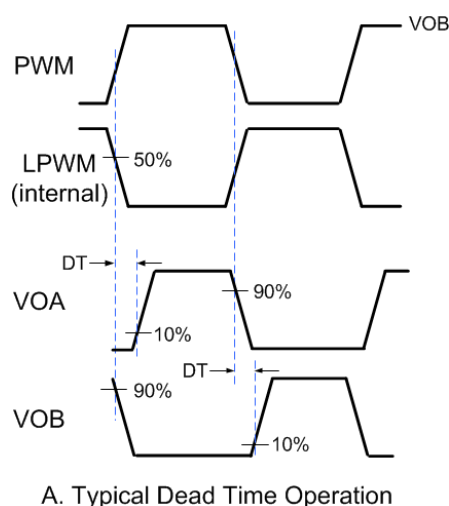
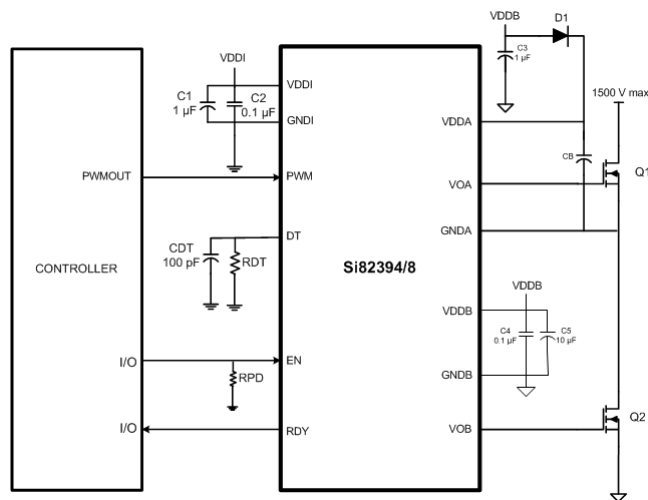

Figure 2.18. Dead Time Waveforms for High-Side/Low-Side Drivers
Figure 3.1. Si82394/8 Application Diagram
| H | H | P | P | P | H | L | H | See Dead-time note and Figure 2.18 Dead Time Waveforms for High-Side/Low-Side Drivers on page 17 for timing |
All high-side/low-side drivers (Si82394/8) include programmable dead time, which adds a user-programmable delay between transitions of VOA and VOB. When enabled, dead time is present on all transitions. The amount of dead time delay (DT) is programmed by a single resistor (RDT) connected from the DT input to ground per the equation below. Note that the dead time pin should be connected to GND1 through a resistor between the values of 6 k Ω and 100 k Ω and a filter capacitor of 100 pF in parallel as shown in Figure 3.1 Si82394/8 Application Diagram on page 18. It is highly recommended it not be tied to VDD1. See Figure 2.18 Dead Time Waveforms for High-Side/Low-Side Drivers on page 17 below.